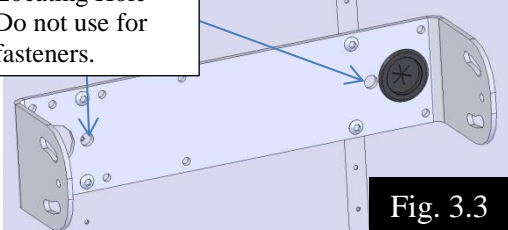

**Fig. 3.2**
1. On the rear of the trailer measure from the bottom of the tarp cap, straight down 26" to 28" and put a mark on the rear face of the trailer **as close to center as possible**. Refer to figure 3.2.